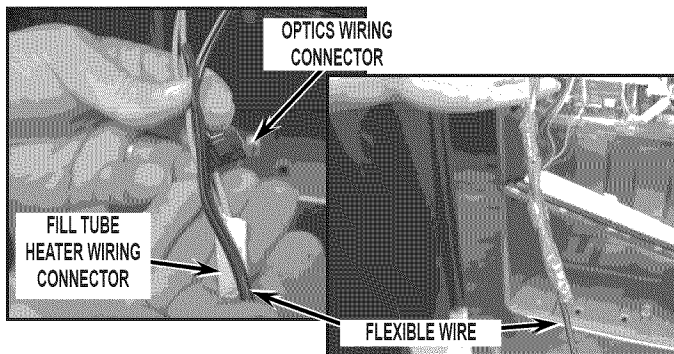

FIGURE 6
- Securely tape a 6 to 8 foot piece of flexible wire or heavy string to the fill tube heater wiring harness, optics wiring harness and connectors so that you can pull the new connectors and wire back through the door conduit. See *Figure 6*.